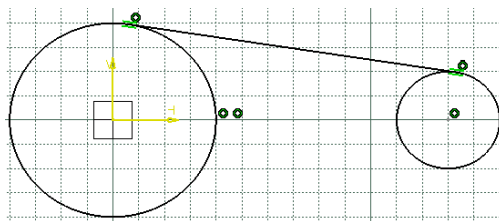

Figure 3-64 The sketch after drawing the first tangent line
9. Move the cursor to the first quadrant of the second circle and specify the endpoint of the line on its circumference; a tangent line is drawn, as shown in Figure 3-64.